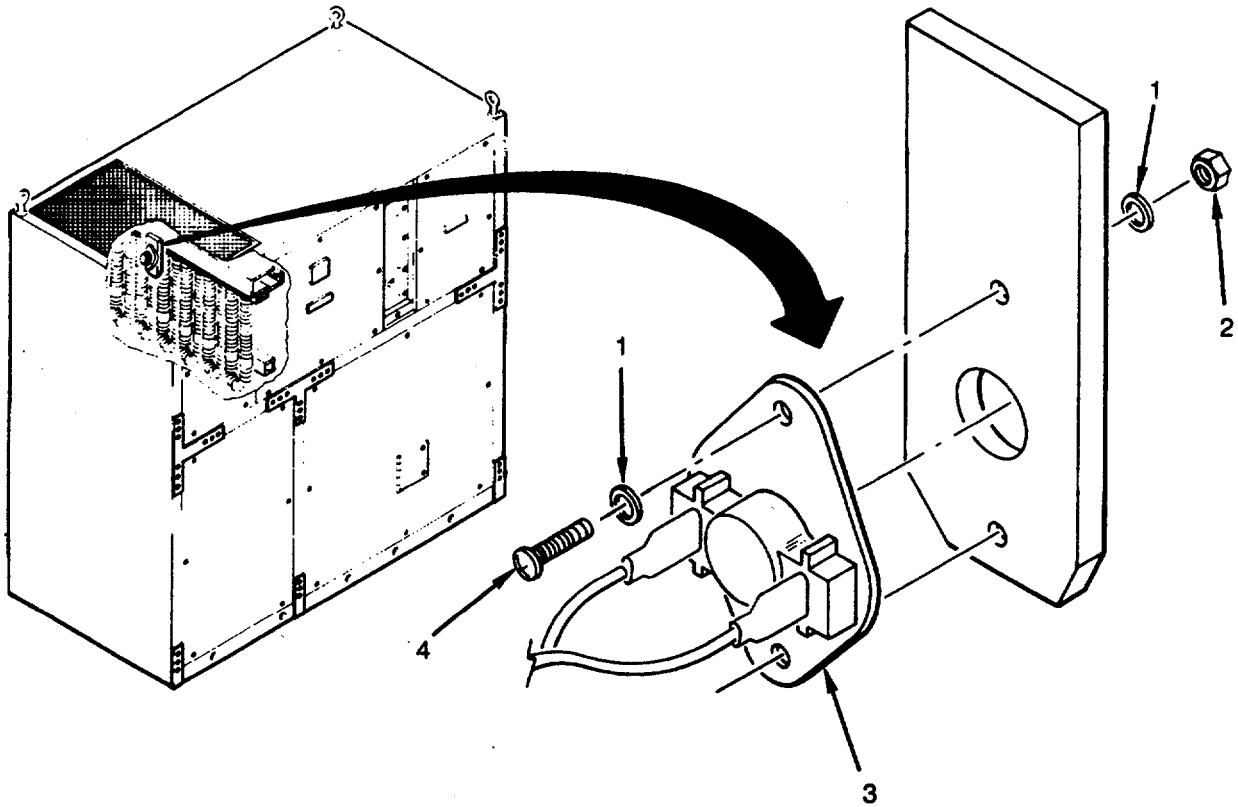

Figure 4-83. High Temperature Switch (S6)
Check high temperature switch (3) for corrosion, loose electrical connections or missing mounting hardware. If damaged, replace switch (see Figure 4-83).